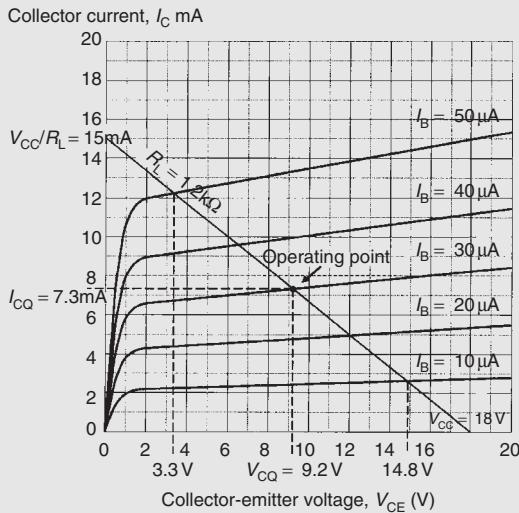

Figure 12.25
Problem 11. The characteristic curves shown in Fig. 12.25 relate to a transistor operating in common-emitter mode. If the transistor is operated with $I_B = 30 \mu\text{A}$, a load resistor of $1.2 \text{ k}\Omega$ and an
- (a) First we need to construct the load line on Fig. 12.25. The two ends of the load line will correspond to V_{CC} , the 18 V supply, on the collector-emitter voltage axis and 18 V/1.2 k Ω or 15 mA on the collector current axis.
- (b) Next we can determine the maximum and minimum values of collector-emitter voltage by locating the appropriate intercept points on Fig. 12.25. Note that the maximum and minimum values of base current will be $(30 \mu\text{A} + 20 \mu\text{A}) = 50 \mu\text{A}$ on positive peaks of the signal and $(30 \mu\text{A} - 20 \mu\text{A}) = 10 \mu\text{A}$ on negative peaks of the signal. The maximum and minimum values of V_{CE} are, respectively, 14.8 V and 3.3 V. Hence,